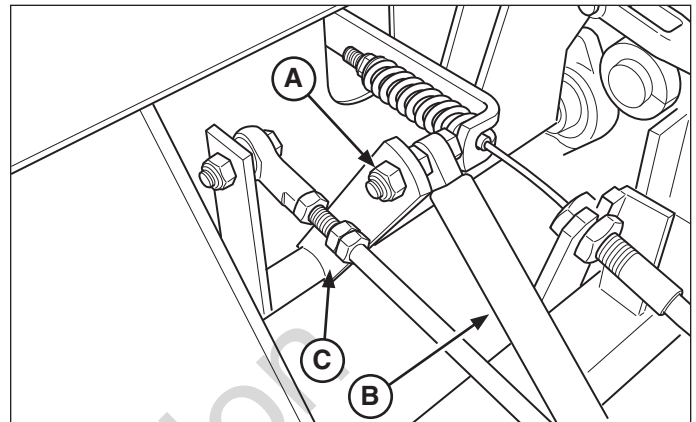

Figure 1. Existing Motion Control Setup
3. Loosen and remove the 5/16-18 hex nylock nuts (**A**, **Figure 1**) that secure the dampener controls (**B**) to the motion control arms (**C**). Discard the 5/16-18 hex nylock nuts.